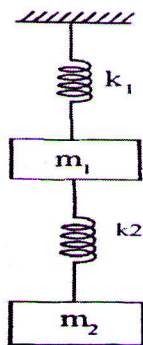

Fig.2
- 15 A two degree of freedom vibrating system is shown in figure 2. Determine the natural frequencies of vibrations and ratio of amplitudes of motion of m_1 and m_2 for the two modes of vibration. $m_1 = 3\text{ kg}$, $m_2 = 2\text{ kg}$, $k_1 = 30\text{ N/m}$ and $k_2 = 15\text{ N/m}$ (14)